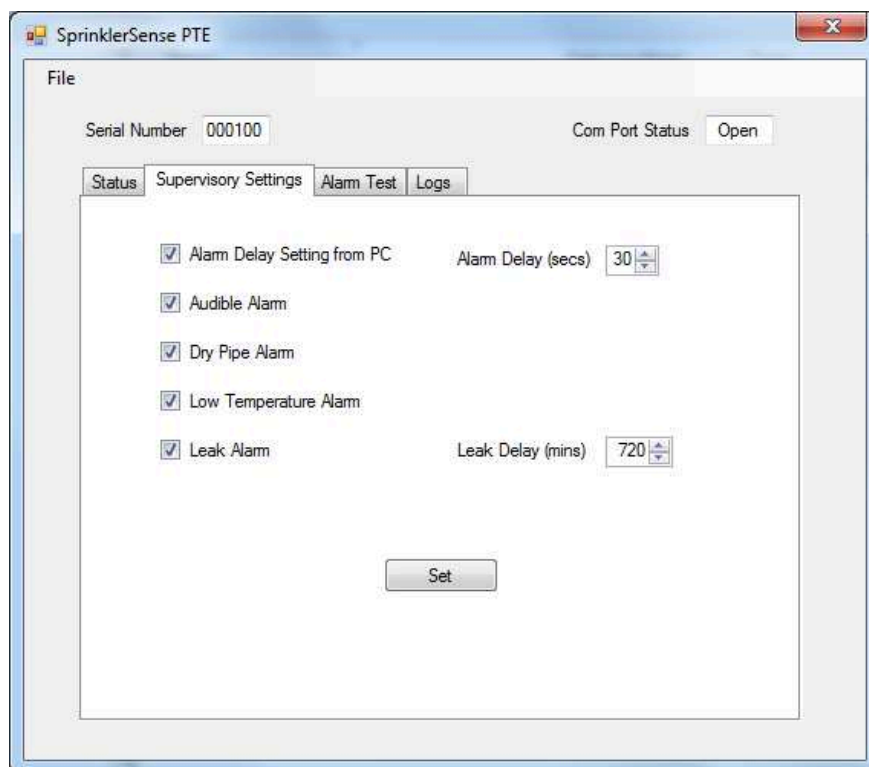

Figure 4
- If the *Alarm Delay Setting from PC* setting is ticked, the manual delay switch in the flow switch is overridden by the *Alarm Delay* set in the PTE. See Figure 4.